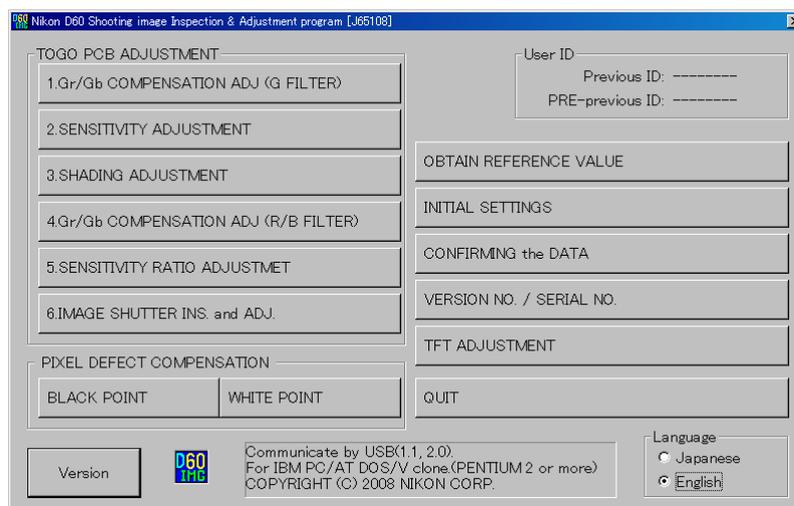

Fig.1
1. Execute "D60IMG.exe" to start up the main screen. (ref. Fig.1)